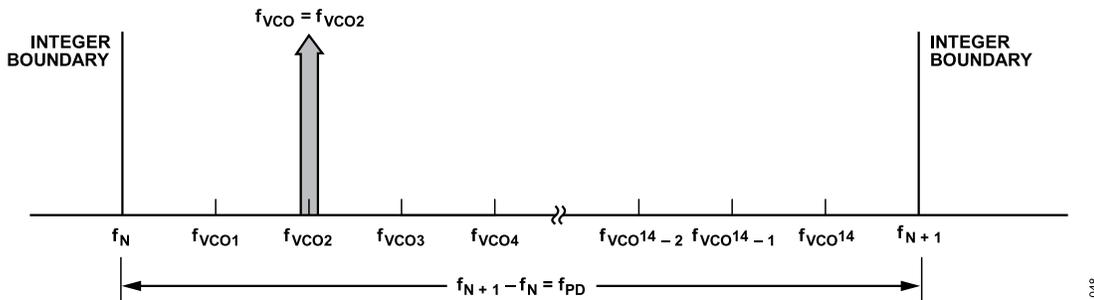

Figure 26. Exact Frequency Tuning
$f_{VCO}k$ is the channel step frequency, $0 < k < 2^{24} - 1$, as shown in Figure 26.
Some fractional PLLs are able to achieve these exact frequencies by shortening the length of the phase accumulator (the denominator or the modulus of the Δ - Σ modulator) so that the Δ - Σ modulator phase accumulator repeats at an exact period related to the interval frequency ($f_{VCO}k - f_{VCO}(k-1)$) in Figure 26. Consequently, the shortened accumulator results in more frequent repeating patterns
When multiple, equally spaced, exact frequency channels are needed that fall within the same interval (that is, $f_N \leq f_{VCOk} < f_{N+1}$) where f_{VCOk} is shown in Figure 26 and $1 \leq k \leq 2^{14}$, it is possible to maintain the same Integer N register (Register 0x03) and exact frequency register (Register 0x0C) settings and only update the fractional register (Register 0x04) setting. The exact frequency channel mode is possible when Equation 16 is satisfied for at least two equally spaced adjacent frequency channels, that is, the channel step size.
To configure the ADF5610 for exact frequency channel mode, initially and only at the beginning, the Integer N register (Register 0x03) and exact frequency register (Register 0x0C) must be programmed for the smallest f_{VCO} frequency (f_{VCO1} in Figure 26). Calculate and program the integer register setting by
where f_{VCO1} is shown in Figure 26 and corresponds to the minimum channel VCO frequency. Then, the lower integer boundary frequency is given by $f_N = N_{INT} \times f_{PD}$.
f_{VCO1} , as shown in Figure 26, represents the smallest channel VCO frequency that is greater than f_N .
- To change from Channel 1 ($f_{VCO1} = 2800.2 \text{ MHz}$) to Channel 2 ($f_{VCO2} = 2800.3 \text{ MHz}$), only Register 0x04 must be programmed, as long as all of the desired exact frequencies (f_{VCOk} , see Figure 26) fall between the same Integer N boundaries ($f_N < f_{VCOk} < f_{N+1}$). In that case,